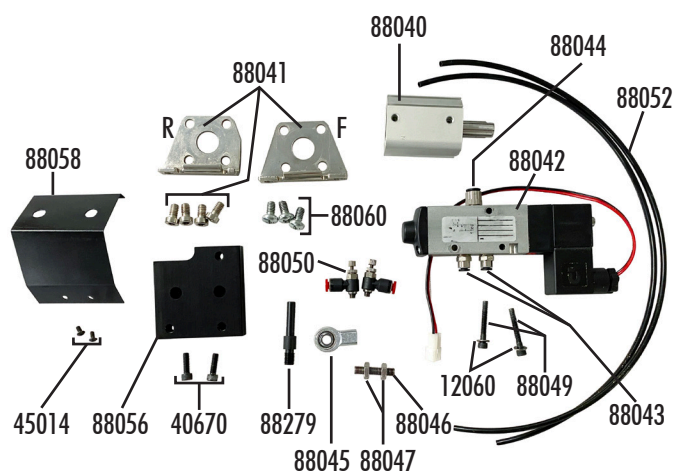

FIGURE 1—Parts list for the LCC pneumatic cylinder (P/N 8815). Includes a 6' length of the 5/32" (4 mm) air line. See page 11 for a detailed list.
1. Lay out all of the parts to make sure that you have all of them (see Figure 1).